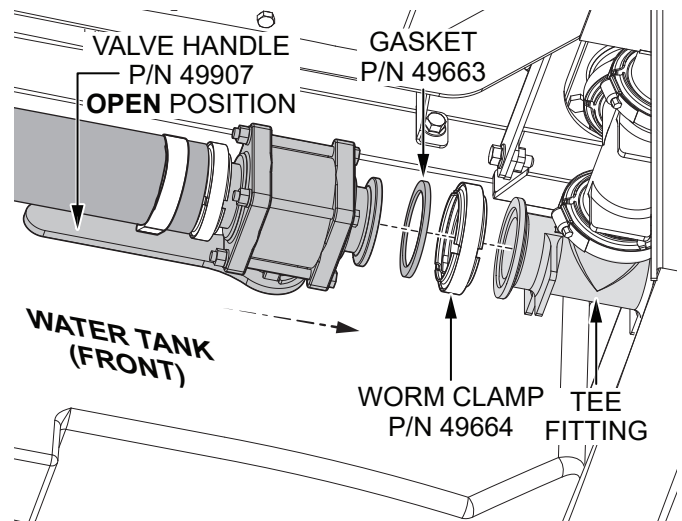

Figure 8. Install Valve Assembly Onto Tee Fitting
5. Install the pre-assembled portion of the valve assembly onto the **tee fitting** using the **gasket (P/N 49663)** and **worm clamp (P/N 49664)**, and tighten the worm clamp. See Figure 8.
Make sure the **valve handle (P/N 49907)** is facing the water tank (Figure 8). When placed in the **OPEN** position, the handle should be **parallel** to the ground. When placed in the **CLOSED** position, the handle should be **perpendicular** to the ground.
5. If water still leaks from the valve assembly after all clamps have been fully tightened, there is a chance the **gasket** (Figure 8) has moved or did not seat properly during installation. In this case:
- b. Make sure that the **gasket (P/N 49663)** in Figure 8 is seated flush within the valve opening, then use the **worm clamp (P/N 49664)** to attach the valve assembly to the tee fitting. Tighten the worm clamp securely.